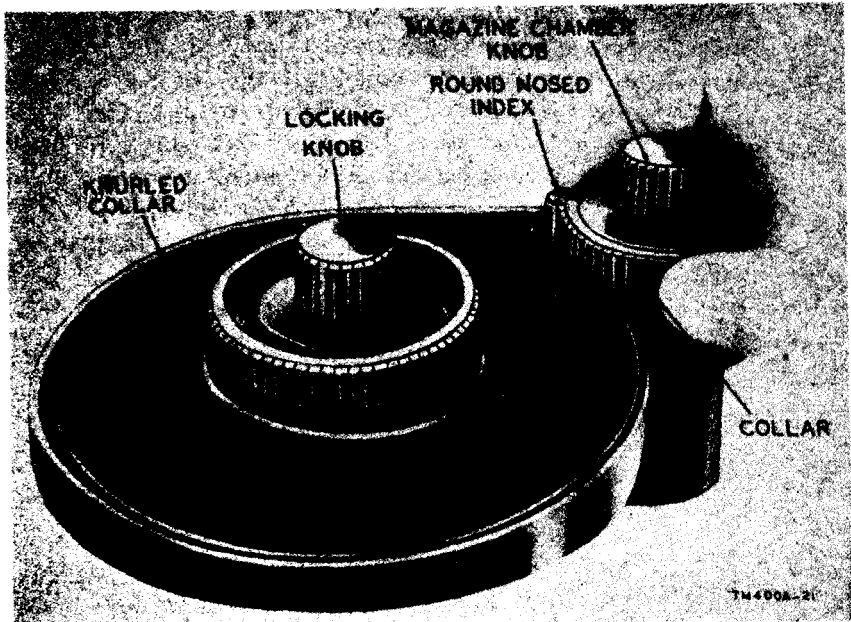
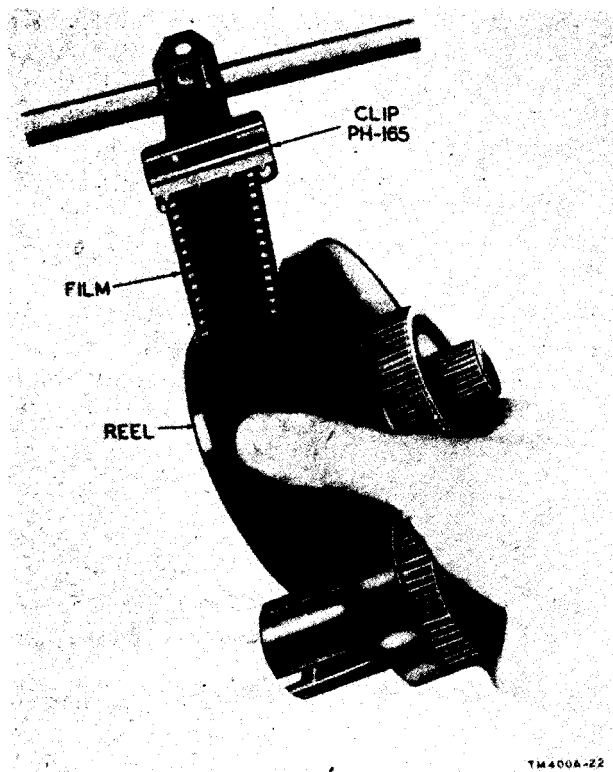

Figure 21. Cutting film after loading.
Figure 22. Removal of film for drying.
- (6) To cut the film and make the developing chamber lighttight, turn the knurled collar and the round-nosed index (fig. 21) clockwise with a firm, rapid action to move the index pointer from LOAD to DEVELOP. Do not hold the magazine chamber knob.
- (7) Rotate the knurled collar (fig. 21) counterclockwise 1 full turn to draw the end of the film into the reel. Rotate the magazine chamber knob (fig. 9) clockwise 1 complete turn, and lift the empty magazine from the chamber.
- (1) Refill the tank with 16 ounces of fixer solution after developing and rinsing. Agitate for the first 30 seconds and for 5 seconds at 2-minute intervals thereafter until fixation is complete. Fix for 10 minutes if the solution is fresh.
- (2) Pour out the fixer; it may be saved and re-used four or five times if it is stored in a capped bottle.
g. Washing. Turn the knurled collar of the film magazine (fig. 21) to the **LOAD** position, and place the opening of the magazine chamber under a water faucet. Allow a slow, steady stream of water to flow into the tank for 1 hour. For faster washing or when water is scarce, remove the cover assembly and place the tank in a bucket or deep tray. Wash for 5 minutes each in six changes of water.
h. Drying (fig. 22). To dry the film, fasten the end, while it is still on the reel, to a film clip suspended from the ceiling or from a shelf. Depress the locking knob (fig. 21) to allow free rotation of the reel and pull the reel downward until the film is unwound. Release the film from the reel and place a second clip on the lower end for weight.
j. Cutting Film (fig. 21).